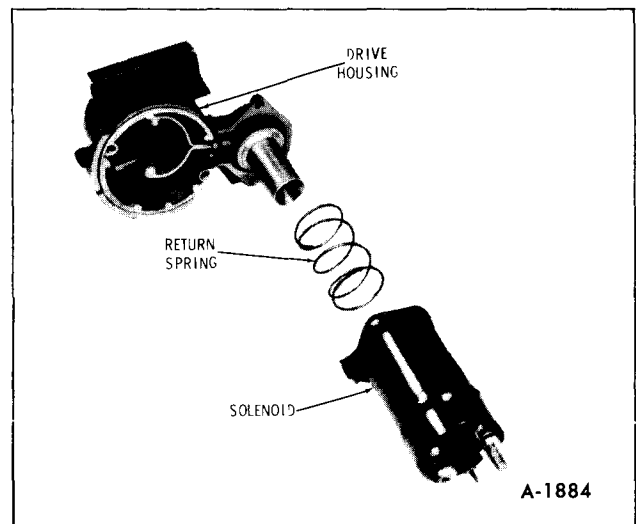

Figure 71—Solenoid Removal
- a. Remove solenoid to drive gear housing attaching screws, then remove solenoid assembly. (figure 71)
c. Install solenoid assembly to drive gear housing. (figure 71)